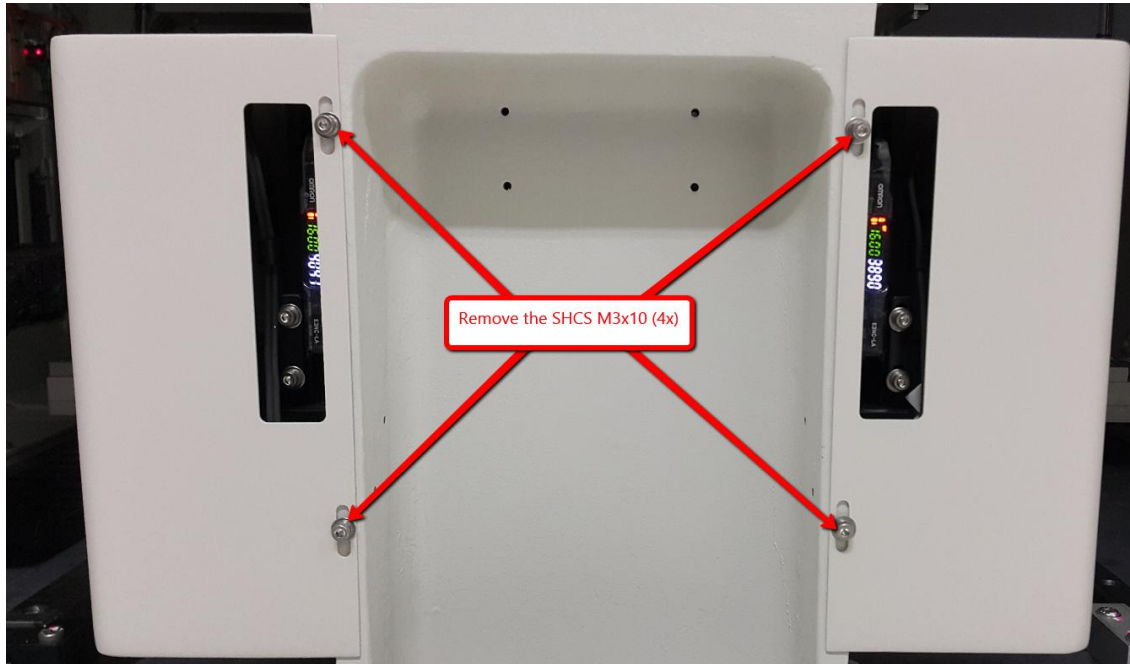

Figure 7 Filter Height Sensor Cover Bracket
8. Remove SHCS M3x10 (4x) to access the filter height sensor head as Figure 7.